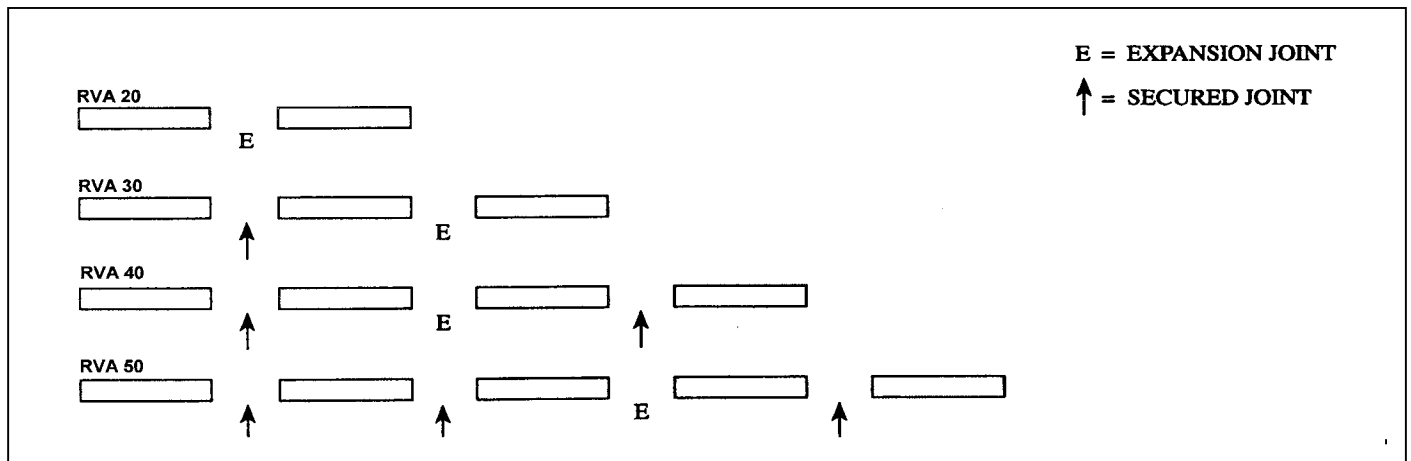

Figure 2-13
3. Secure reflectors together with sheet metal screws (not supplied) at points indicated by arrows (see Figure 2-13). Make sure to leave an expansion joint.